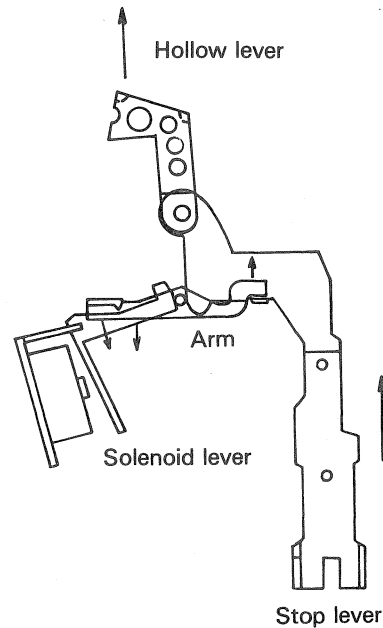

Fig. 7
We shall now explain in detail what happens until the solenoid lever is mechanically activated by the stop lever. Refer to Photos 11 and 12 and to Fig. 7.
The lever is coupled to the stop lever. When the stop lever is raised (same as depressing the stop button), the arm between the stopper lever and the solenoid lever operates as in Fig. 7. Operation is as per steps 1, 2 and 3 in Fig. 7. However, this arm's center is coupled to lever 1 on the rear and so it moves up and down in accordance with the movement of lever 1. This is why the arm releases the solenoid lever only during the play mode.
- 2-5. The tape stops traveling. Refer to Fig. 7.